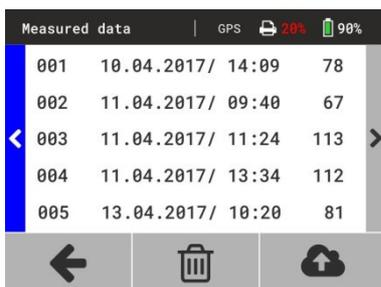

Figure 20
- ⇒ The stored test series appear on the screen (Figure 20).